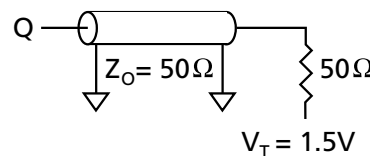
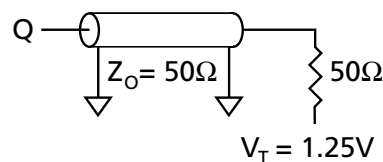

Figure 1
Figure 3
8. Test conditions as specified with the output loading shown in Figure 1 for 3.3V I/O (V_{DDQ} = +3.3V ±0.165V) and Figure 3 for 2.5V I/O (V_{DDQ} = +2.5V +0.4V/-0.125V) unless otherwise noted.
Output load	See Figures 1 and 2
Output load	See Figures 3 and 4